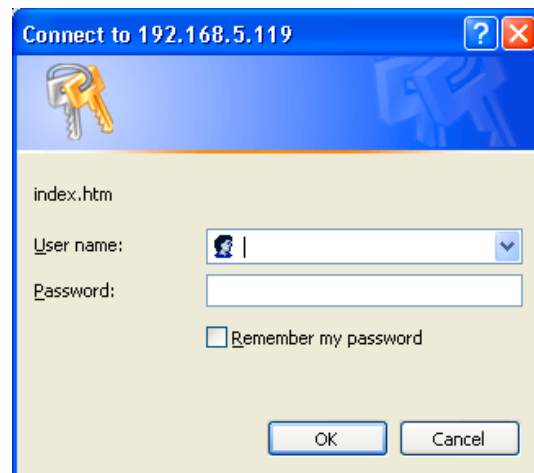

Figure 15. Example of Logon Screen
8. Now open your Internet Explorer program. In the address line enter http://100.100.100.100 and then hit Return. You will then be asked for a username and password. An example of the login screen is shown in Figure 15. If this is your first time logging onto a UPLC™ unit from the factory, type “administrator” for the username and “pulsar” for the password. If this is not the first time logging onto the UPLC™, and user accounts have been set up, use your assigned user name and password.